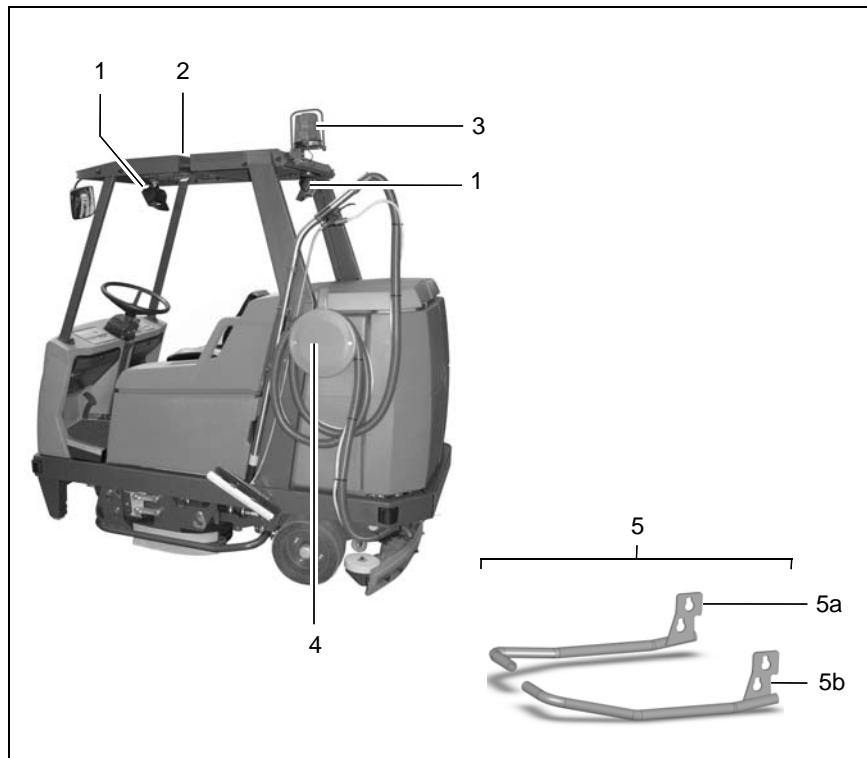

Fig. 16
(Fig. 16/1) (7584.02)
(Fig. 16/2) (7582)
(Fig. 16/3)
- **Spraying/Vacuumping tool (Fig. 16/4)**
- **Hand-held vacuum cleaner (Fig. 16/4)**
- **Side collision protection (Fig. 16/5)**